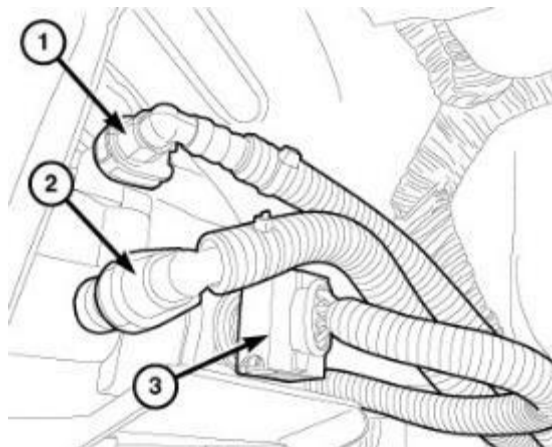

Figure 40 – Inlet and Outlet Lines
94. Disconnect the fuel filter/water separator outlet fuel line (1) (Figure 40).
95. Disconnect the fuel filter/water separator inlet fuel line (2) (Figure 40).
96. Disconnect the combination fuel heater/temperature sensor wire harness connector (3) (Figure 40).
111. Connect the combination fuel heater/temperature sensor wire harness connector (3) (Figure 40).
112. Connect the fuel filter/water separator inlet fuel line (2) (Figure 40).
113. Connect the fuel filter/water separator outlet fuel line (1) (Figure 40).